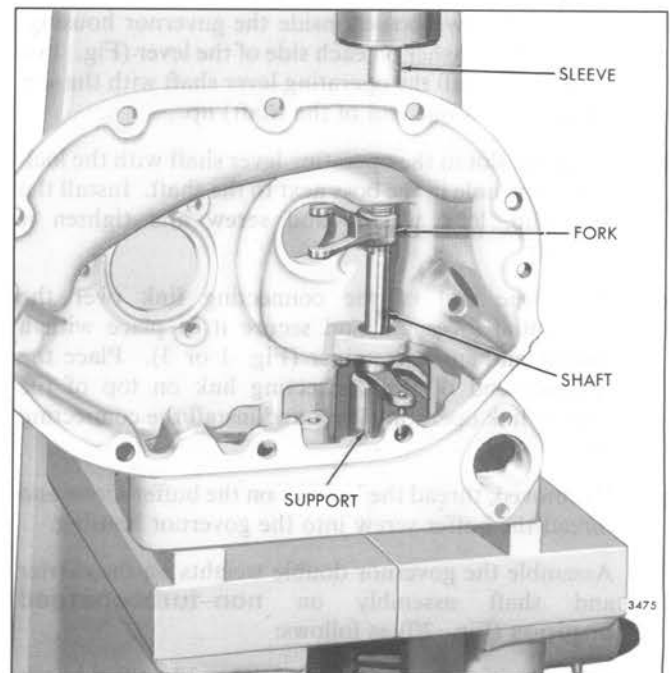

Fig. 20 - Installing Governor Operating Shaft Fork on Shaft
- f. Support the governor housing and operating shaft assembly on the bed of an arbor press with the upper end of the operating shaft resting on a steel support (Fig. 20). Place a 7/16" inside diameter sleeve over the end of the shaft and against the fork, then press the fork tight against the shaft spacer on the shaft.
(Fig. 20). Place a 7/16" inside diameter sleeve on the inner race of the bearing and press the bearing on the shaft until it seats on the shoulder in the housing.
3. Assemble the governor double weights on the carrier and shaft assembly on **non-turbocharged engines** (Fig. 20) as follows:
4. Assemble the governor double weight and shaft assembly on **turbocharged engines** (Fig. 20) as follows: